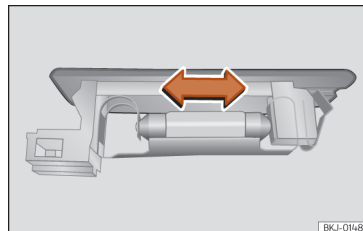

Fig. 66 Boot light.
- Press the bulb sideways and remove it from its housing »» **Fig. 66**.